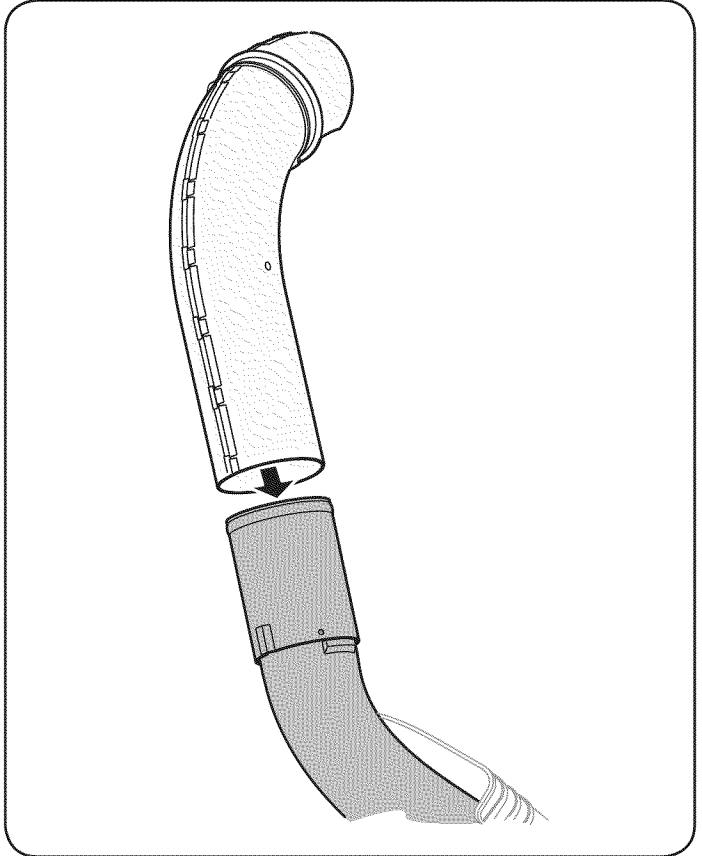
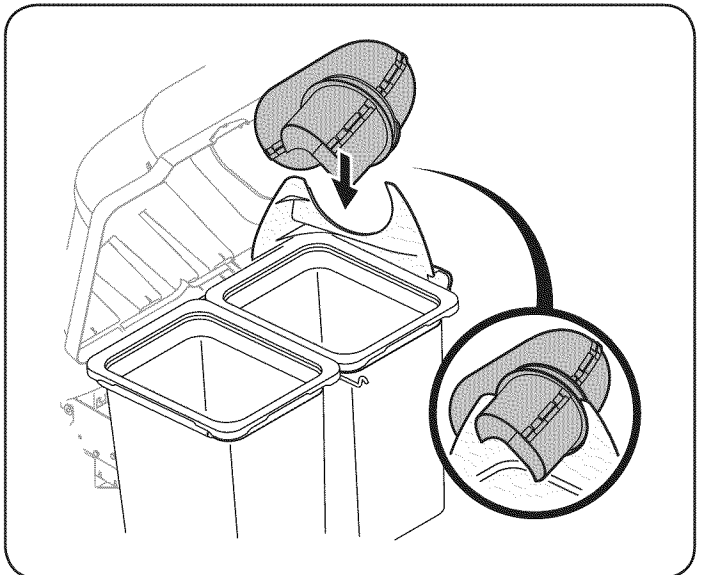

Figure 28
Figure 29
17. With the grass catcher cover open, install the discharge chute over the chute extension tube, as seen in Fig. 28, and rest the top end into the upper chute support installed on the right-hand side of the bin support assembly. See Fig. 29.
NOTE: The groove on the upper chute should be aligned with the upper chute support, as seen in the inset of Fig. 29.